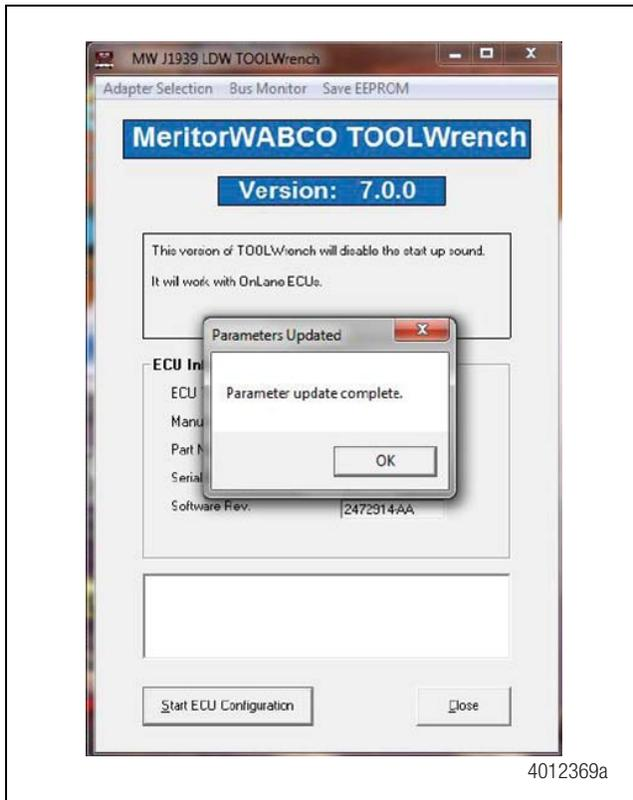

Figure 5
- Wait for TOOLWrench to complete the update. When finished, the following message will appear in the window. Figure 5.